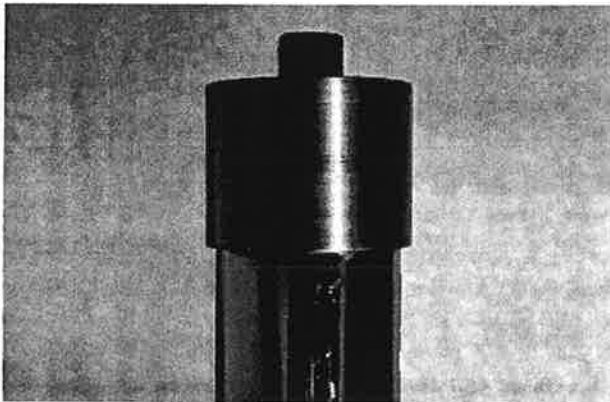

Figure 50. Locking Cap
- B. Install locking cap. See Figure 50. This locks the feed tube and boring bar together permitting extension and rotation of the boring bar at the same time.
- A. Remove ratchet handle. Remove cap. Replace handle. See Figure 50. Turn feed tube counter-clockwise to zero mark on body tube. Do not permit boring bar to rotate. Otherwise, the plug will unscrew from fitting.
- F. Install locking cap. See Figure 50.